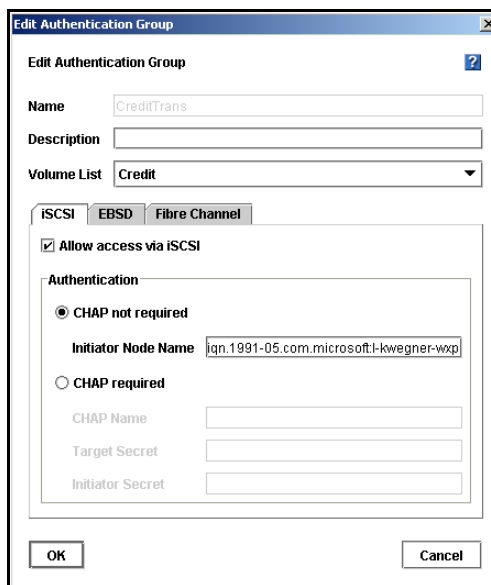

Figure 200. Editing an Authentication Group
4. From the Tasks menu, select Edit Authentication Group. The Edit Authentication Group window opens, shown in Figure 200.